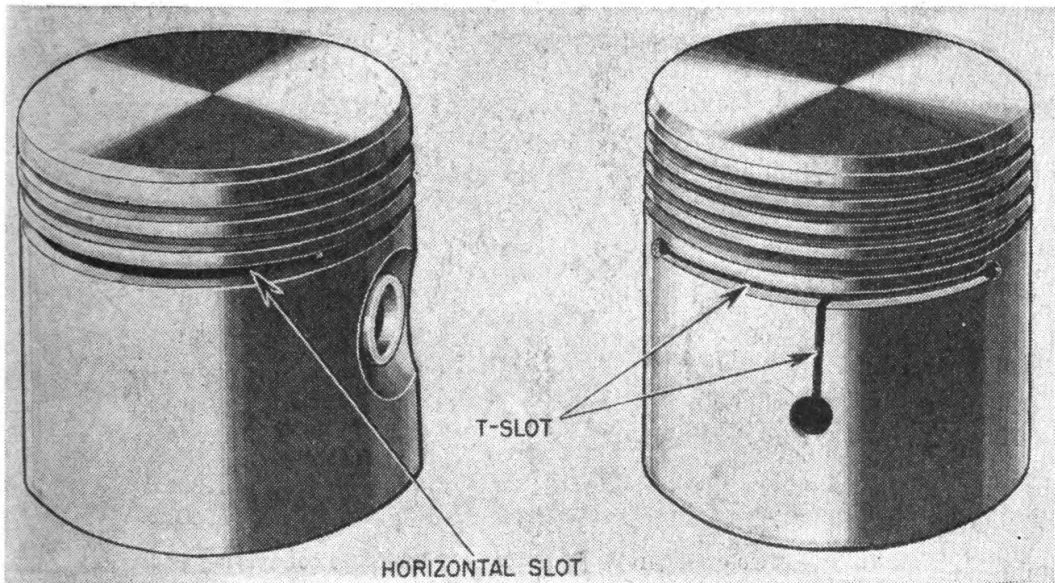

FIGURE 58.—Two types of cam-ground pistons.
**54. Pistons.**—Motorcycle pistons are made of cast iron or an aluminum alloy. Aluminum pistons will develop some slap until they are warmed up, because the clearance between the piston and the cylinder is greater when the engine is cold. Figure 58 shows two types of